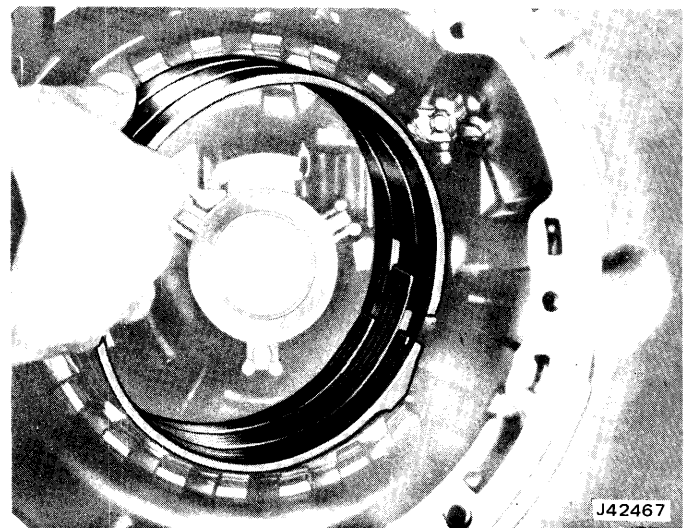

Fig. 7-38 Removing Rear Band
(7) Remove rear band (fig. 7-38).